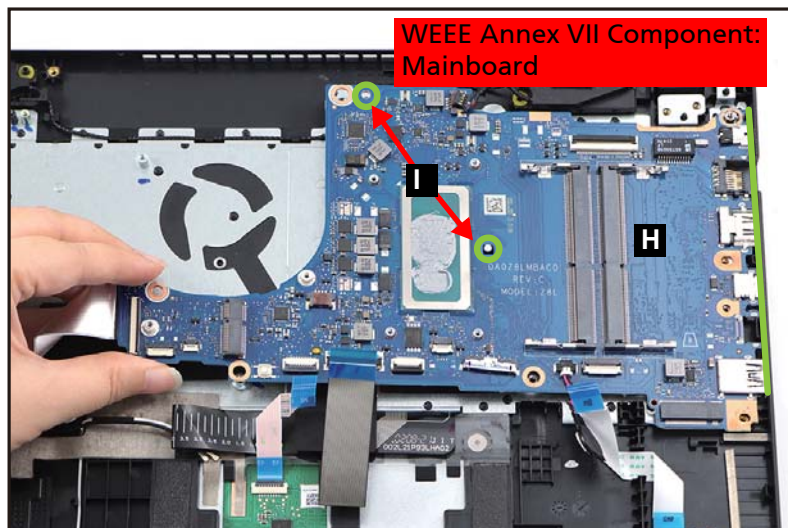

Figure 1-32. Mainboard Removal
9. Release the mainboard (H) from the I/O connectors slots and guide pins (I) on the top assembly (Figure 1-32). Then remove the mainboard.